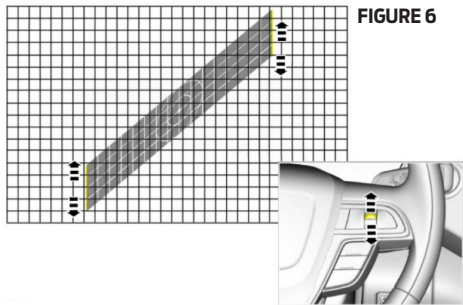

FIGURE 6
19. Using the Up and Down button, remove the vertical distortion from the image (**Figure 6**), then press OK.